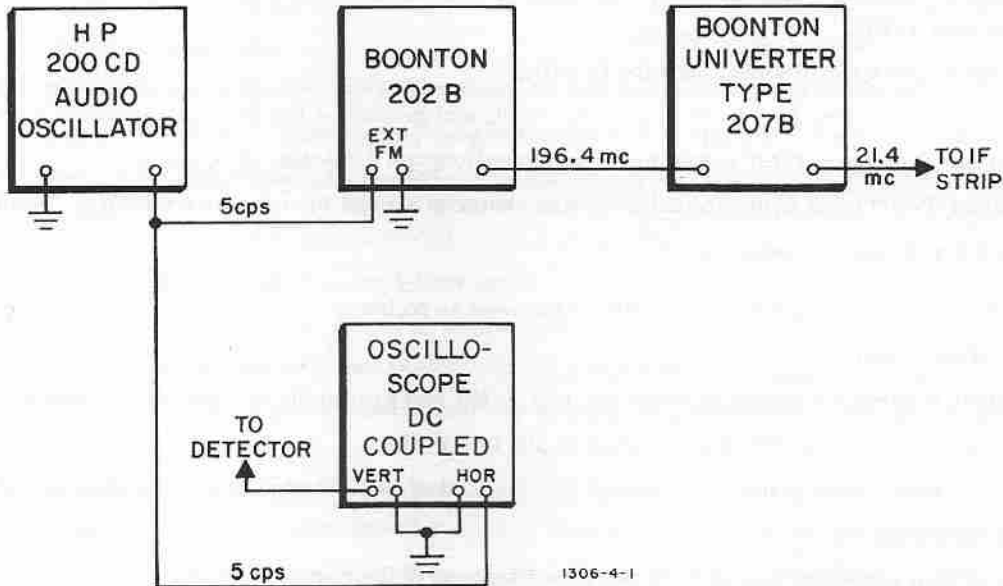

Figure 4-1. 10-kc IF Crystal Filter Alignment Set-up
- (2) Third IF Amplifier, Adjustment of T-602 and T-603. - Proceed as follows:
- (c) Arrange setup as shown in Figure 4-1. The low sweep rate (5 cps) makes it possible to align the crystal filter without distorting the response curve.